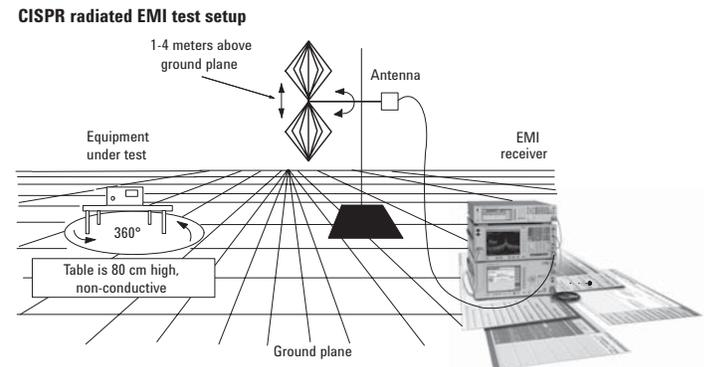

Figure 12. Radiated test setup
1. Arrange the antenna, EUT and EMI receiver as shown in Figure 12. Separate the antenna and the EUT by 3 meters (10 meters if the regulation calls it out). CISPR and ANSI require your EUT to be in worst case mode of operation (i.e. attached cables, monitor).